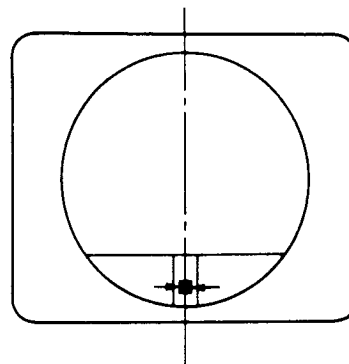

Fig. 4. DISPLAY POSITION
- (1) Tune receiver to a G-Card signal.
- (2) Press "OPTIMUM" button and adjust DISPLAY POSITION control VR701 so that the optimum display shall be in the middle of the horizontal width of the picture. (Fig. 4).